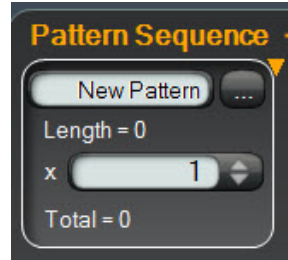

Figure 74. Inserting a new pattern
1. In the **Programmable Pattern Editor**, click on the **New Pattern...** button under **Insert**. A new sub-pattern is displayed as shown in Figure 74.